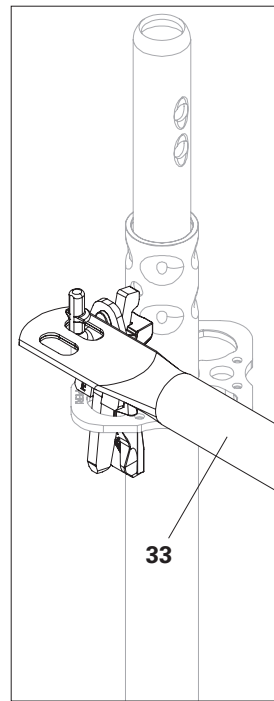

Fig. A11.03b
2. Hang the Guardrail Posts EPG (**33**) and intermediate guardrails on the guardrail hooks. (Fig. A11.03b + A11.03c)